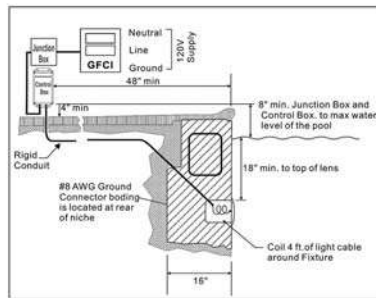

Figure 1
2. The junction box (or, for 12 volt models, the low voltage transformer) must be located at least eight(8) inches above water level, at least four (4) inches above ground level, and at least four (4) feet from the edge of the pool. See Figure 1.
3. The light fixture and all metal items within five(5) feet of the pool must be properly electrically bonded to a reliable point of grounding.
4. The wet niche must be properly installed so that the top edge of the underwater light's lens is at least 18 inches below the surface of the water in the pool. See Figure 1.
5. The wet niche must be properly electrically bonded and grounded via the No. 8 AWG ground connector located at the rear of the niche. See Figure 1.
1. Feed cord through conduit to junction box, leaving at least four (4) feet of cord at the light fixture to coil into the base of the light niche, see Figure 1. The four (4) feet of cord allows the light to be serviced after the pool is filled with water.
2. Cut the cord at the junction box, leaving at least six (6) inches of cord to make connections.
2. The junction box (or, for 12 volt models, the low voltage transformer) must be located at least eight (8) inches above water level, at least four (4) inches above ground level, and at least four (4) feet from the edge of the pool. See Figure 1.
3. The light fixture and all metal items within five (5) feet of the pool must be properly electrically bonded to a reliable point of grounding.
4. Feed cord through conduit to junction box, leaving at least four (4) feet of cord at the light fixture to coil into the base of the light niche, see Figure 1. The four (4) feet of cord allows the light to be serviced after the pool is filled with water.
5. Cut the cord at the junction box, leaving at least six (6) inches of cord to make connections.